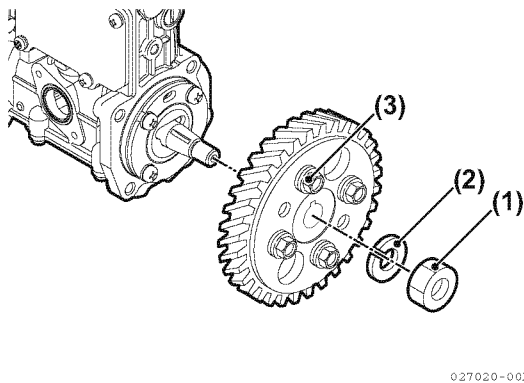

Figure 7-12
- Do not loosen or remove the four bolts (Figure 7-12, (3)) holding the pump drive gear to the hub. Only remove the single drive gear nut (Figure 7-12, (1)) and washer (Figure 7-12, (2)), leaving the hub attached to the gear.
- Hold the gear train stationary using a large socket wrench on the crankshaft pulley bolt. Loosen the fuel injection pump drive gear retaining nut (Figure 7-12, (1)) and turn it out to the end of the fuel injection pump shaft.